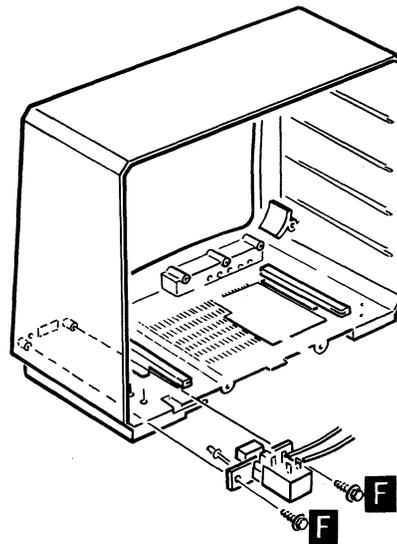

Figure 6.9
- Refer to Figure 6.9 and remove the two 8-18 x .437" hex head screws at F that secure the switch assembly to the mounting bracket.